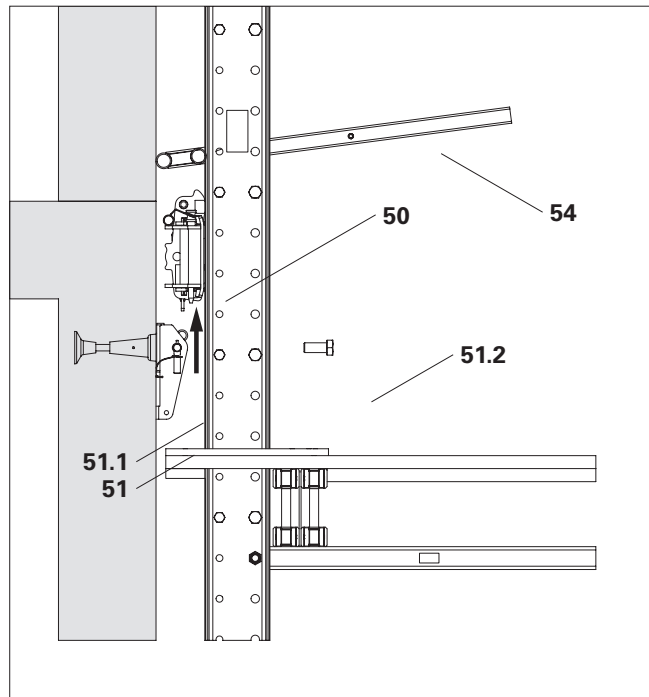

Fig. D4.04
6. Pull the climbing shoe upwards, then out to the side behind the climbing rail. (Fig. D4.04 + D4.04a)